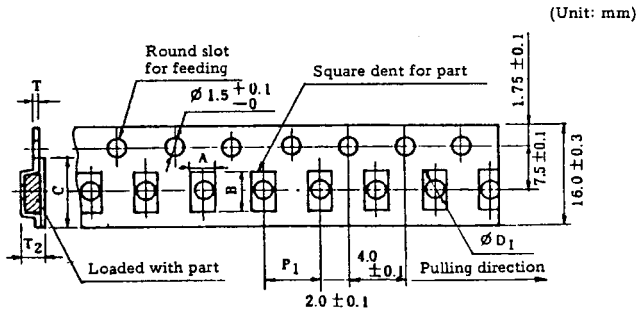

Fig. 6-6 Embossed taping types TE1604, 1608 and 1612
b) Types TE1604, 1608, 1612 (Fig. 6-6)